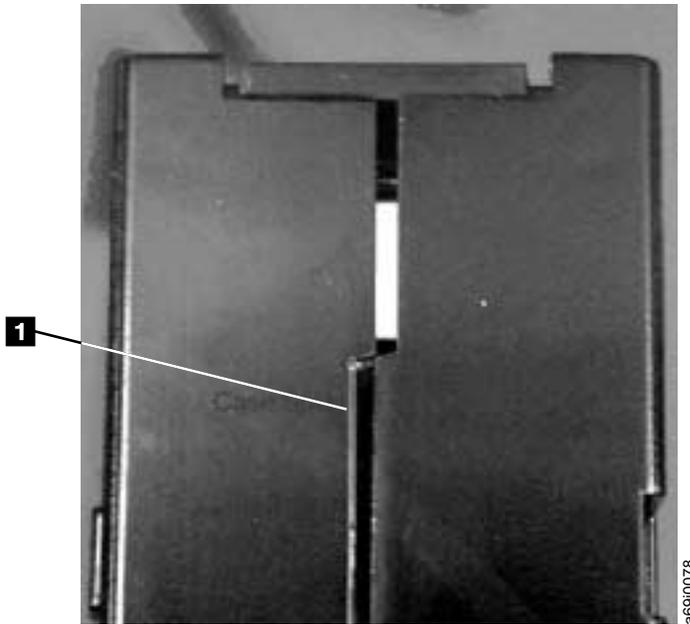
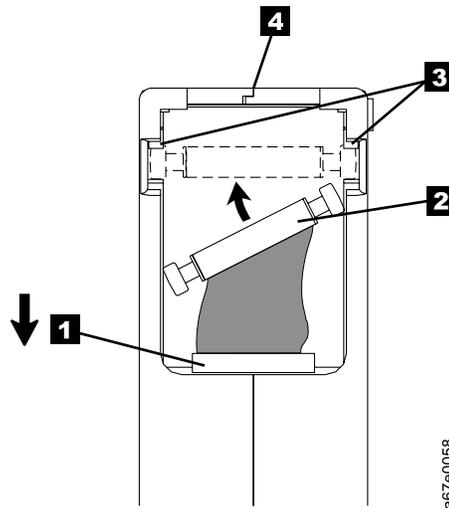

Figure 12. Checking for gaps in the seams of a cartridge
Figure 14. Placing the dislodged leader pin into the correct position. The cartridge door is open to show the leader pin.
- Inspect the rear of the cartridge (the part that you load first into the tape load compartment) and ensure that there are no gaps in the seam of the cartridge case (see **1** in Figure 12 on page 33 and **4** in Figure 14 on page 36). If there are gaps in the seam (see Figure 12 on page 33), the leader pin may be dislodged. Go to “Repositioning or Reattaching a Leader Pin” on page 35.
### Example: Split Cartridge Case (see Figure 12 on page 33)
1. Slide open the cartridge door ( **1** in Figure 14) and locate the leader pin ( **2** ) (you may need to shake the cartridge gently to roll the pin toward the door).